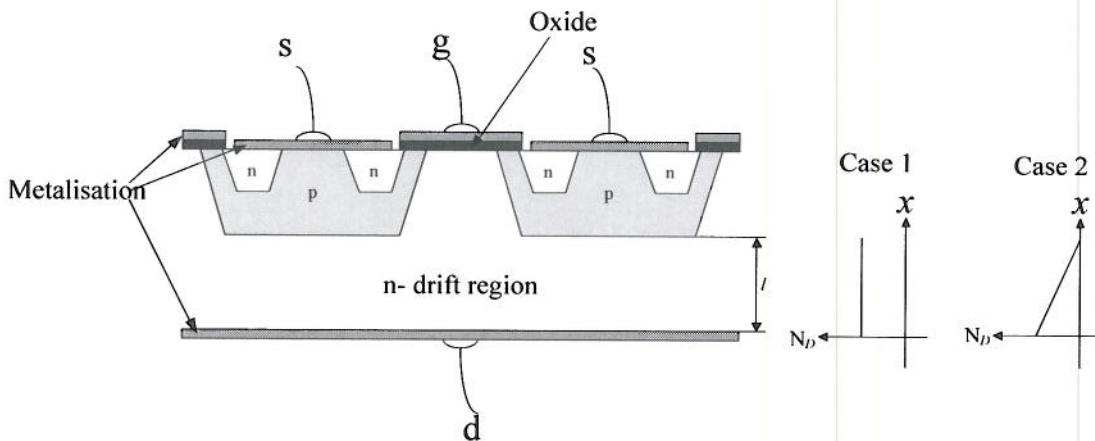

Figure Q3.1 Structure of new proposed IRF MOSFET family with two proposed drift region doping profiles
3. International Rectifier (IRF) are designing a new family of power MOSFETs rated to block 250 V. A cross-section through the device is shown in Figure Q3.1. Two doping profiles are being considered for the drift region.
- Explain why the structure of Fig Q3.1 is used in power MOSFETs and why drain-source resistance eventually becomes too high for efficient device operation as the device is designed for increasing blocking voltage.
- In the first design iteration, IRF decide to use a constant doping density of the n- drift region of $1 \times 10^{15}/\text{cm}^3$ of donors (case 1 in Figure Q3.1). What length of drift region is required to meet the 250 V blocking capability? Assume that the voltage across the depletion layer which grows in the p diffusion is negligible, so that all of the voltage is blocked across the n- drift region. [Hint: the space charge density is given by the doping density times the charge on the electron]
- In the second iteration, IRF decide to use a doping profile in the n- region which is non-constant. The doping density is effectively 0 at the p to n-interface and increases linearly as a function of distance towards the drain (case 2 in Figure Q3.1). Calculate the required drift-region length l to meet the 250 V blocking capability, given that the doping density at the drain is fixed at $1.5 \times 10^{15}/\text{cm}^3$.